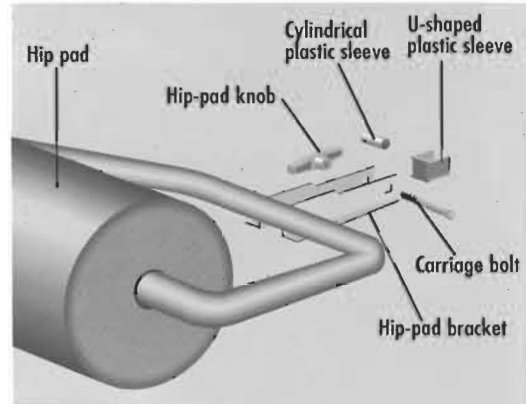

Figure 9
1. Remove the hip-pad knob and carriage bolt from the hip-pad bracket (Figure 9).